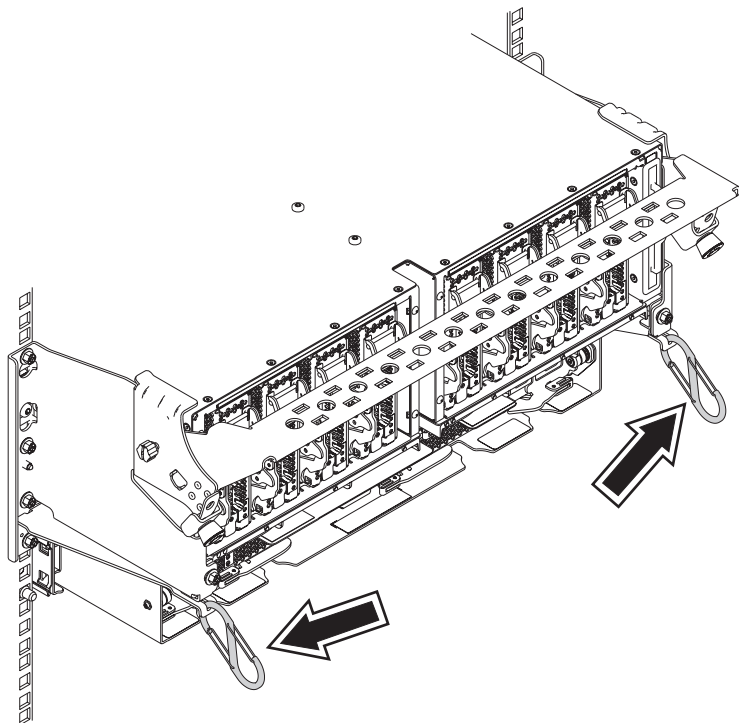
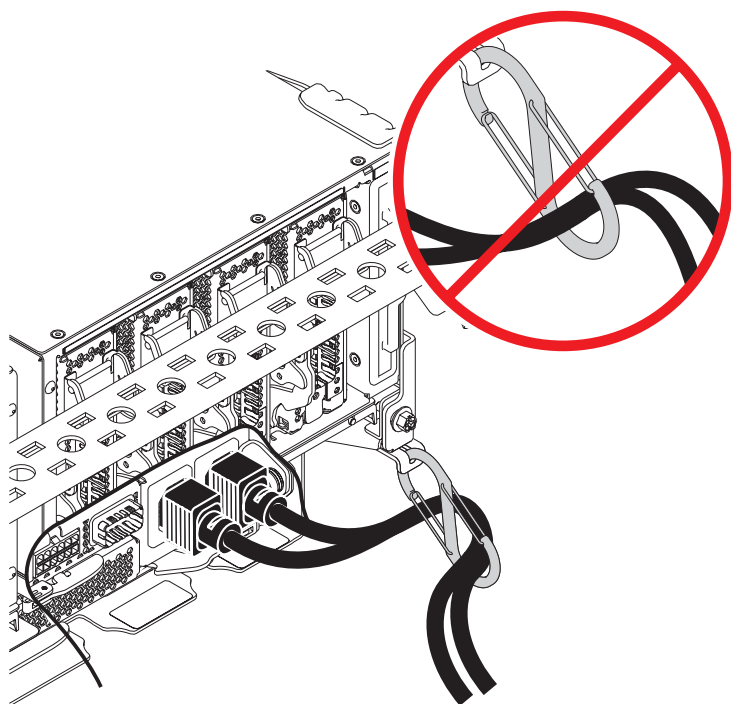

Figure 14. Location of power cable retention carabiners
Figure 15. Reconnecting power cables to the rear of the line cord conduit
- c. Route the power cables through the cable retention carabiners and plug the power cables into the rear of the line cord conduit. See Figure 14 and Figure 15.